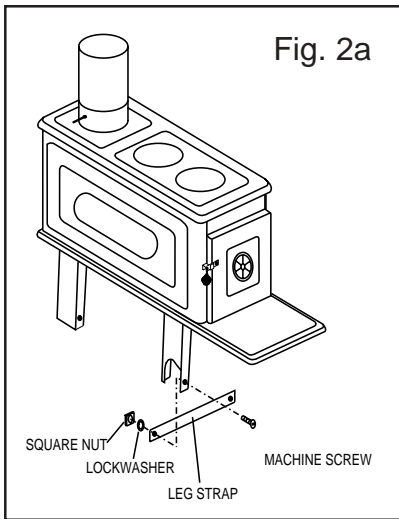

Fig. 2a
3. Attach leg strap to the inside of the legs (as shown below) using machine screws, lockwashers, and nuts that are furnished. (NOTE: This is to be done to front set of legs and rear set of legs.) (See Fig. 2a)